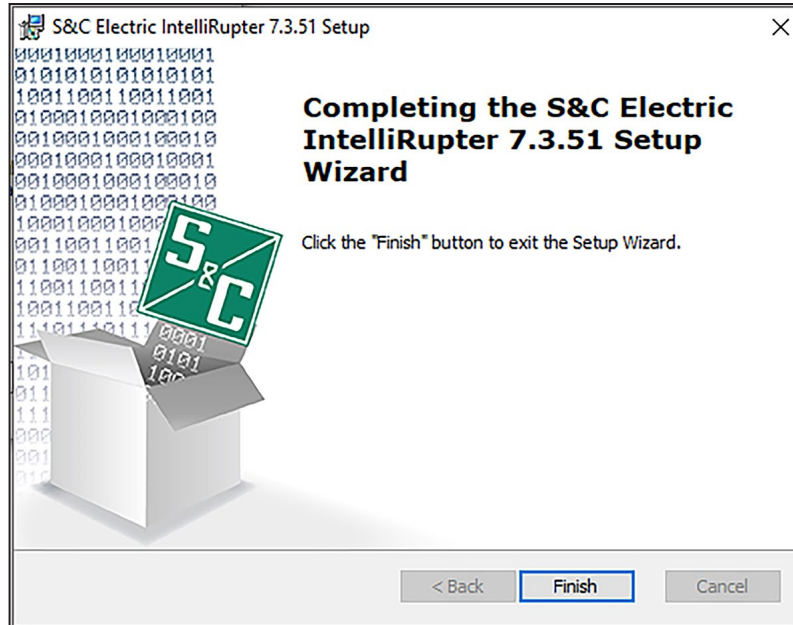

Figure 6. Installation complete. Click on the Finish button to run the next installer.
STEP 11. When “Installation Complete” is displayed, that component has been installed. Click on the **Finish** button, and the installer for the next component will start. Follow the screen prompts to install each component. Depending on the options selected, some installer screens may look different from what is shown in Figure 6.